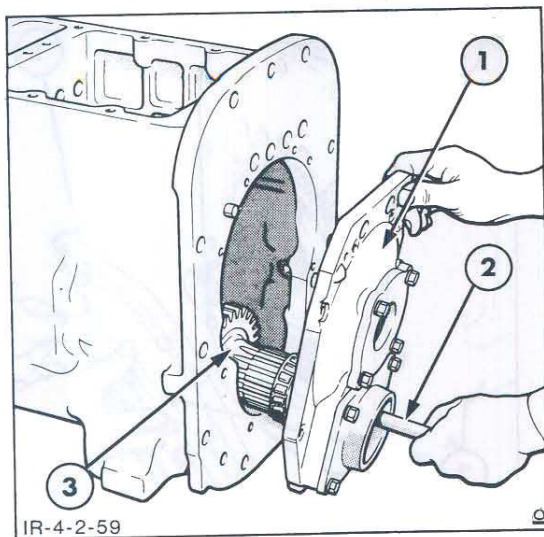
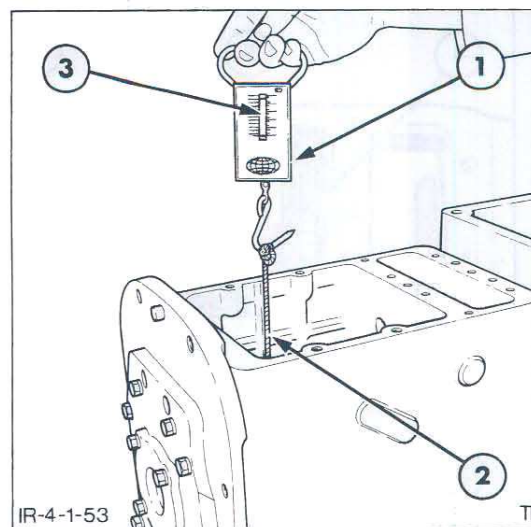

Figure 60
Figure 61
5. Insert a suitable rod through the bearing cap hole and into the countershaft assembly, Figure 60.
9. Using a suitable length of cord and a pull scale as shown in Figure 61, wrap the cord around the countershaft just ahead of the helical gear, Figure 60. Ensure that the cord does not overlap.